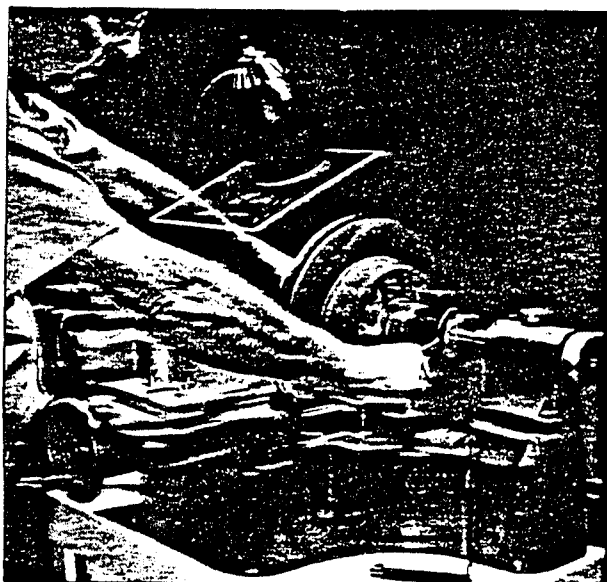

Figure 23. Loosen Arbor Assembly Nut
3. Loosen small knurled nut on arbor using a spanner wrench, Figure 23.